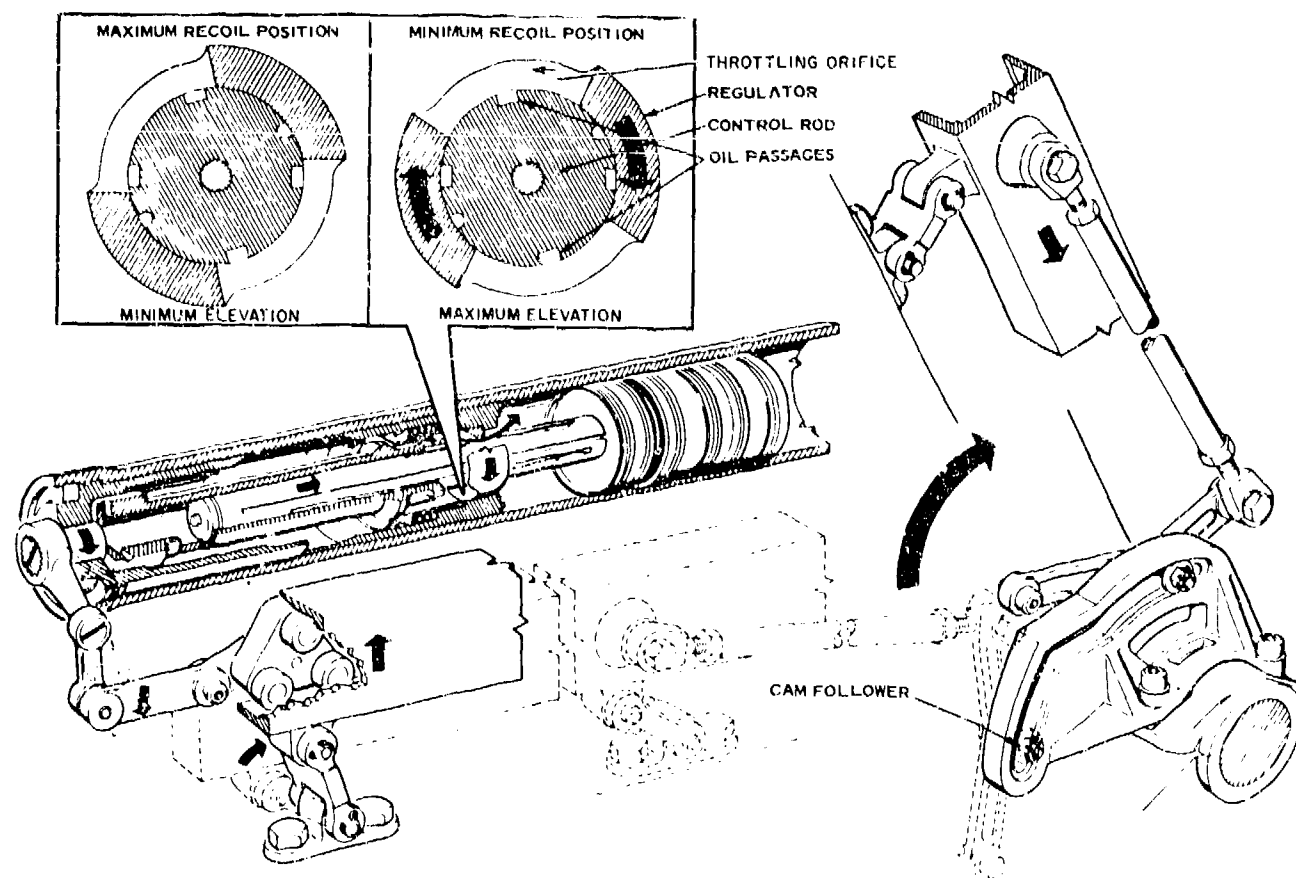

Figure 4-32. Functioning of the variable recoil mechanism.
(4) *Variable recoil mechanism.* The variable recoil mechanism (fig 4-32) provides the weapon with a means of shortening recoil length at high angles of elevation. As the tube is elevated, the roller tracks along the control cam, which pivots toward the rear of the weapon. The tube and the rail and plate assembly form the link between the lever and the roller support. As the roller support pulls the support arm and arm link to the rear, the mechanism arm is rotated downward, forcing the regulator to turn. As the regulator turns, the throttling orifice is gradually rotated so that it disengages the long variable depth grooves. From 0 to 178 mils the length of recoil is 50 inches; from 178 to 711 mils the length of recoil varies; from 711 to 1,333 mils the length of recoil is 30 inches.